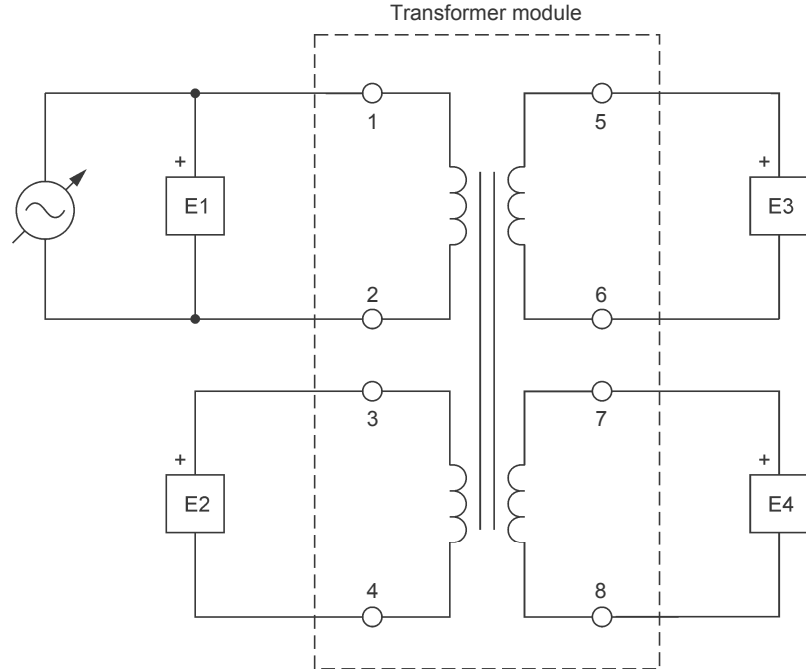

Figure 6. Circuit for measuring the voltage induced across each winding of the transformer when the ac power source is connected to winding 1-2.
10. Connect the equipment as shown in Figure 6.